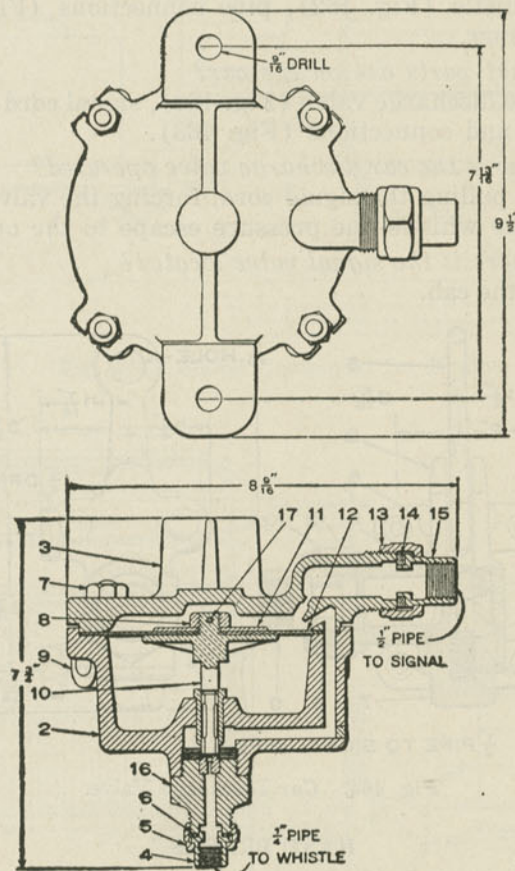
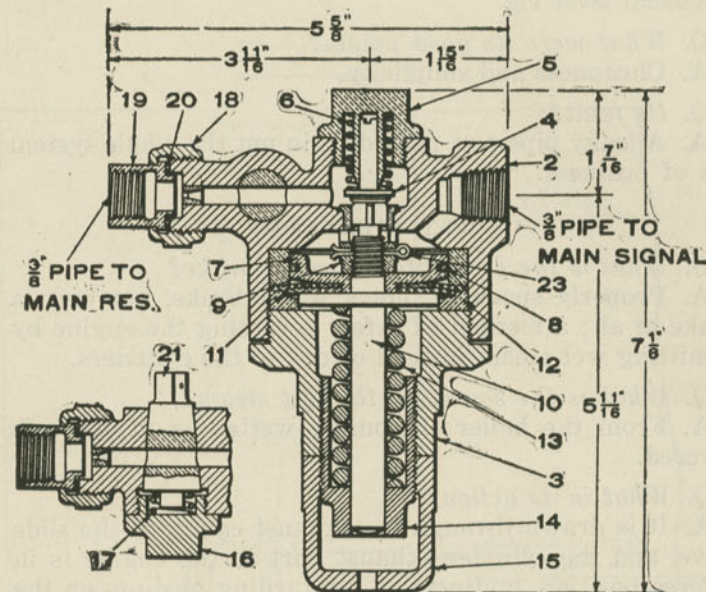

Fig. 465. Signal Valve.
Fig. 466. Signal Reducing Valve.
A. The reducing valve (Fig. 466), signal valve (Fig. 465), whistle (Fig. 462), pipe connections (Fig. 462), and strainer.